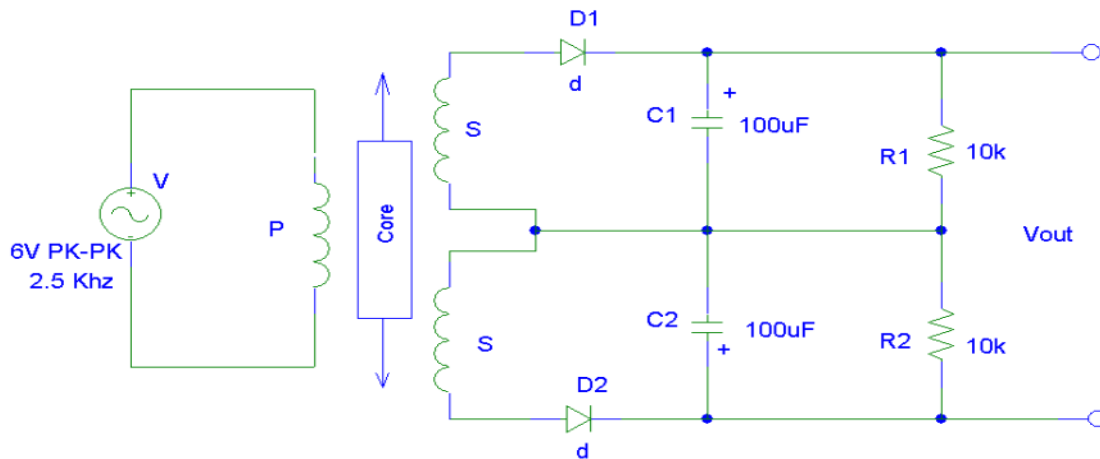

Figure 2. Demodulator circuit used to condition LVDT output.
For measurement convenience, the LVDT sinusoidal output can be rectified and conditioned using the circuit of Figure 2 to provide a DC output.
2. Build the demodulator circuit shown in Figure 2 and show your instructor how the LVDT position sensor